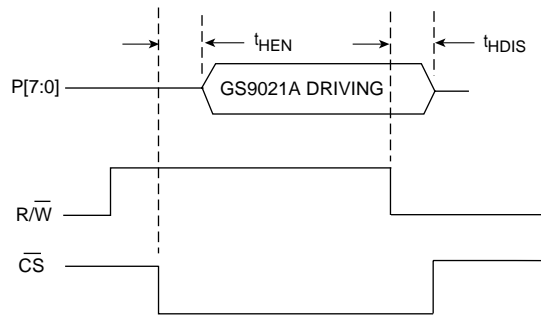

Fig. 8b HOSTIF Parallel Port Output Enable and Disable Times
- C) The GS9021A drives the P[7:0] bus when the  $R/\overline{W}$  pin is HIGH and the  $\overline{CS}$  pin is LOW. At all other times, the P[7:0] port is in a high impedance state. The host interface enable and disable times are shown in Figure 8b and are specified in the AC timing information. In this figure, the rising/falling edges of  $R/\overline{W}$  and  $\overline{CS}$  are not aligned to illustrate that the state of the P[7:0] I/Os is only a combinatorial function of the  $R/\overline{W}$  and  $\overline{CS}$  pins.